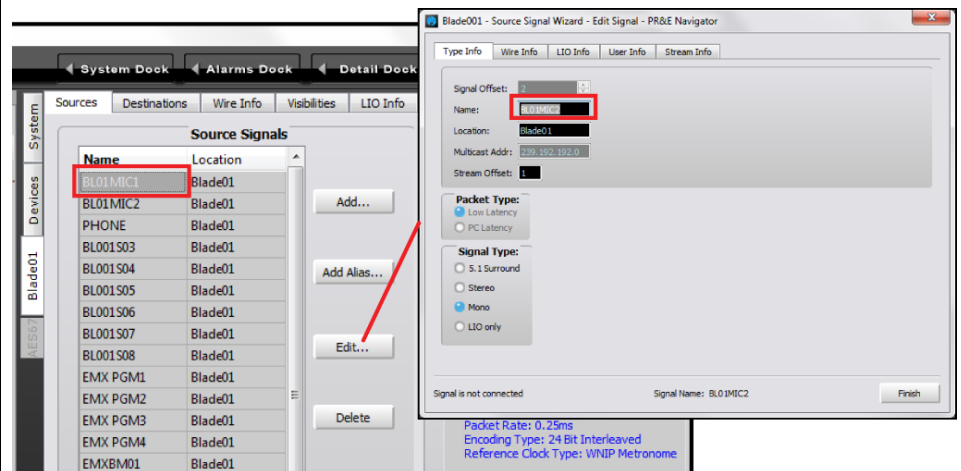
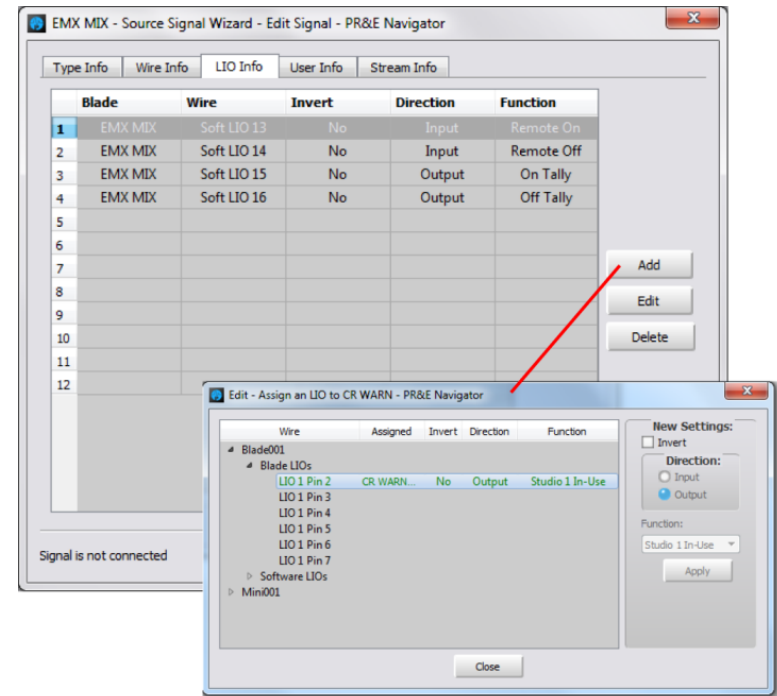

Figure 3-28 Editing a Signal
Figure 3-30 Logic Assignment tab
To edit the name, click on the name in the **Source Signals** section of the tab then type in a new name of up to eight characters. You can alternately click once on the name then click **Edit...** to open the **Signal Edit** window (shown in Figure 3-28) and edit the name in that window. Shown by the red outlines.
Click on the other mono signal (BL01MIC1) to highlight it and click **Edit...** to open the edit window (Figure 3-28). Change the **Signal Type** selection from Mono to Stereo. You can then edit the name back to a generic name, like BL001S01, to indicate Analog In 1 or, if you know what stereo device will connect to that input, enter the device name in the **Name** entry box. Click **Finish** to close the Edit Window.
Note: You cannot edit a source or destination signal while it's connected in the Crosspoint grid. When the **Signal Edit** window opens (Figure 3-28) look at the bottom of the window to verify it shows "Signal is not connected." If it shows "Signal is connected" you won't be able to make any changes to that signal other than editing its name.
To create an Alias, click on a Source name (you can also set up an Alias on a Destination or on a logic signal, but most often an Alias is created for a Source) then click *Add Alias...* As an example, to create an Alias for BL01MIC1, click on that name (highlighted in Figure 3-28 on the last page) then click *Add Alias...* to open the *Add Alias* window. Type in the "Talent's name" in the *Name:* entry box. Click *Finish* to close the *Add Alias* window. The Alias name is now added as a completely new "source" that can then be added to channel source visibility lists.
When the logic is associated with an audio input signal, like BLO1MIC1, select that audio input name (it highlights) then click *Edit* to open the Edit Signal window (the process shown in Figure 3-28 on page 40). Click the **LIO Info** tab (Figure 3-30) to view, edit, or delete the logic settings associated with that audio signal.
Figure 3-30 shows the typical settings used with a WNIP Talent Station (TS). It uses two logic signals to carry Remote On and Remote Off commands from the TS to the DMX channel, and two logic return signals to carry the On and Off Tally logic back to the TS. These are assigned using Software LIO since the TS is a networked device. Clicking *Add* opens the **Assign LIO** window which is also shown in Figure 3-30.
On the **Blade > Destinations tab** click *Add...* to open a new *Add Signal* window. In the **Signal Type:** section, select *LIO only*. A default name is assigned to the new signal, like BL01D01. Edit that name to something useful, like CR WARN, by double-clicking on the name in the **Name:** entry box and entering a new name of up to eight characters. Click the **LIO Info** tab to open the **Logic Assignments** window, shown in Figure 3-30. On a new logic-only signal click *Add...* to open the **Assign an LIO** window, also
shown in Figure 3-30. The first open pin is highlighted which is Pin 2 in Figure 3-30. Clicking on another row allows that pin to be configured. To set the highlighted pin for output logic, like a Control Room warning command, select *Output* as the *Direction* then select the *Function* from the drop-down menu items. Our CR WARN command will use the Function: *Studio 1 In-Use* since Studio 1 is the Control Room. Click *Apply* to set that logic command then click *Close* to close that window. That command is then added to the list of logic commands in the LIO Info tab.